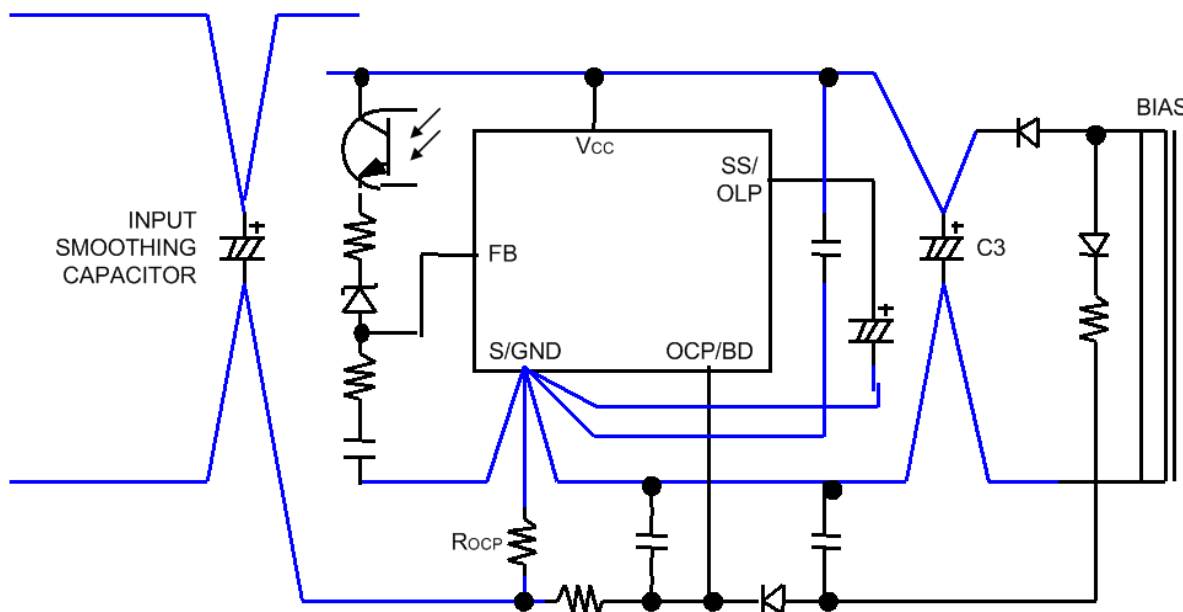

Figure 26 – Layout considerations
- In order to reduce or eliminate shared impedances, the S/GND pin (pin 3) and its peripheral components should be located as close together as possible as is illustrated in Figure 26. The trace from the overcurrent sense resistor to the input smoothing capacitor should be kept as short and thick as possible.